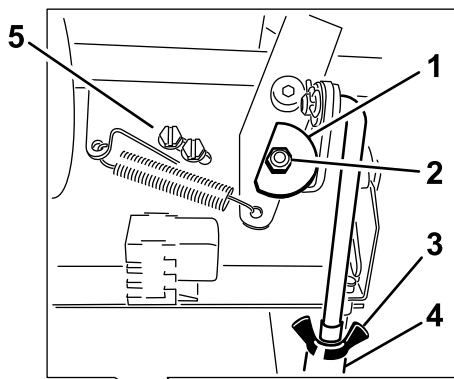

Figure 50
7. Loosen the nut and bolt holding the cam (Figure 50).